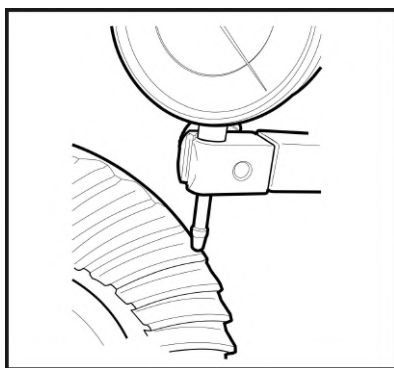

Fig. 3
1.8 Install a dial indicator. Secure the indicator holder to the outside of the differential housing and position the dial indicator tip perpendicular to a tooth of the ring gear. (**Fig. 3**)